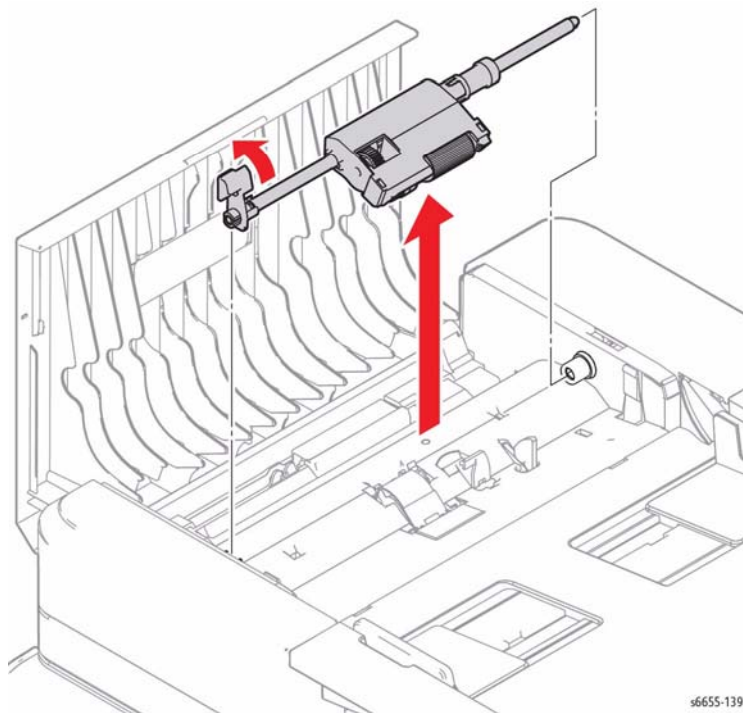

Figure 1 Remove the DADF Pick-up Assembly
3. Refer to Figure 1 to locate and release the bearing locks at each end of the shaft to remove the assembly.